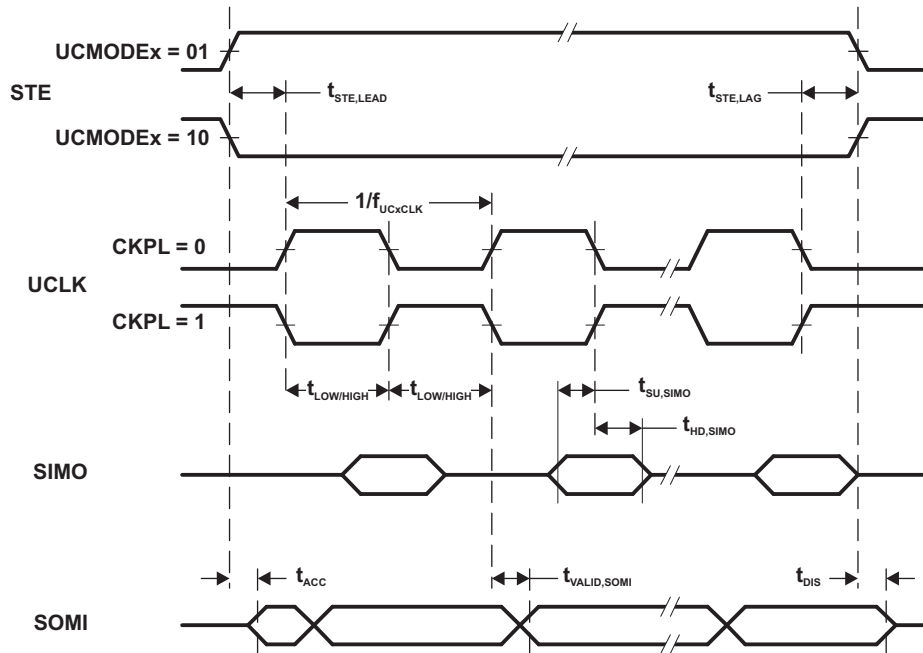
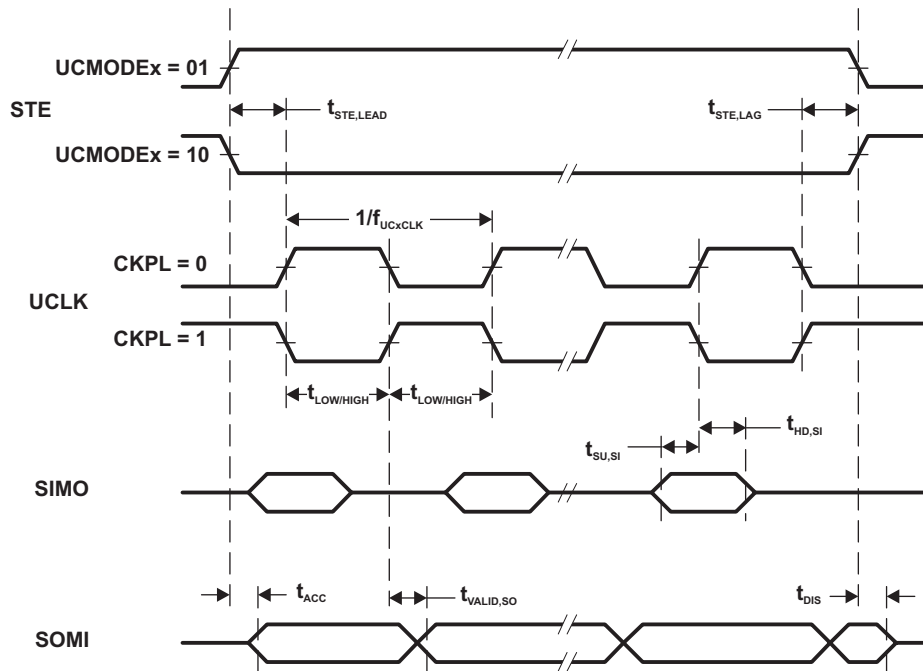

Figure 14. SPI Slave Mode, CKPH = 0
Figure 15. SPI Slave Mode, CKPH = 1
- (1) $f_{UCxCLK} = 1/2t_{LO/HI}$ with $t_{LO/HI} \geq \max(t_{VALID,MO(Master)} + t_{SU,SI(eUSCI)}, t_{SU,MI(Master)} + t_{VALID,SO(eUSCI)})$. For the master's parameters $t_{SU,MI(Master)}$ and $t_{VALID,MO(Master)}$ refer to the SPI parameters of the attached slave.
- (2) Specifies the time to drive the next valid data to the SOMI output after the output changing UCLK clock edge. See the timing diagrams in Figure 14 and Figure 15.
- (3) Specifies how long data on the SOMI output is valid after the output changing UCLK clock edge. See the timing diagrams in Figure 14 and Figure 15.